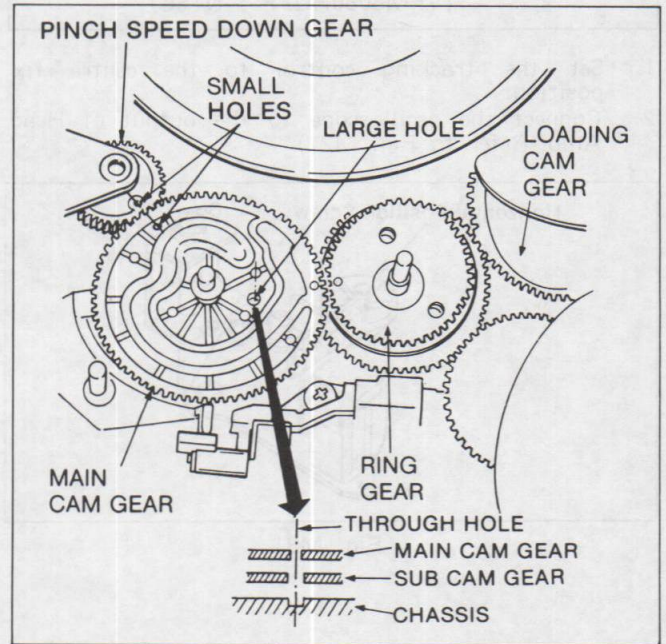

Fig. A4
2. Install the Main Cam Gear on to the Sub Cam Gear so that the small hole of Main Cam Gear is exactly in line with the small hole of Pinch Speed Down Gear. And the large hole of Main Cam Gear is exactly in line with the large hole of Sub Cam Gear as shown in Fig. A4.